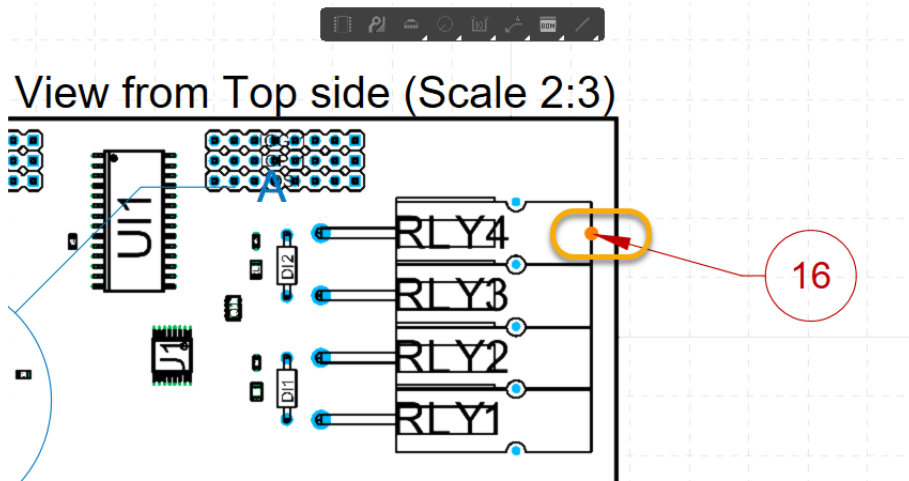

Figure 6. Select RLY4 for Callout
- a) Select RLY4 at the center of the right edge, as seen at Figure 6.